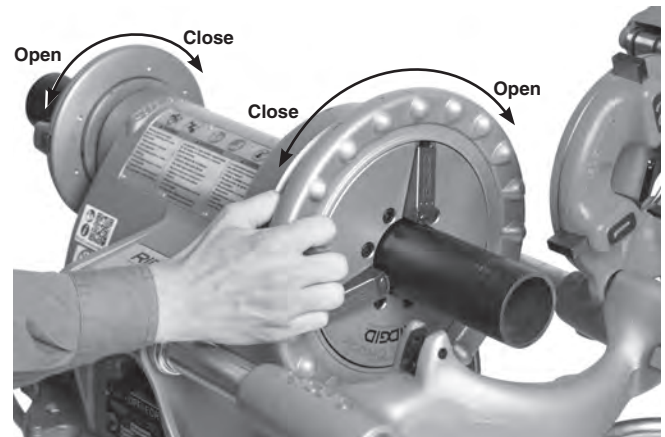

Figure 14 – Chucking Pipe
4. Turn the rear-centering device counterclockwise (viewed from rear of machine) to close down onto pipe (Figure 14). Make sure that the pipe is centered in the inserts. This improves pipe support and gives better results.
5. Turn the front chuck hand wheel counterclockwise (viewed from front of machine) to close down onto pipe. Make sure that the pipe is centered in inserts. Use repeated and forceful counterclockwise spins of the hand wheel to secure pipe in front chuck (Figure 14).